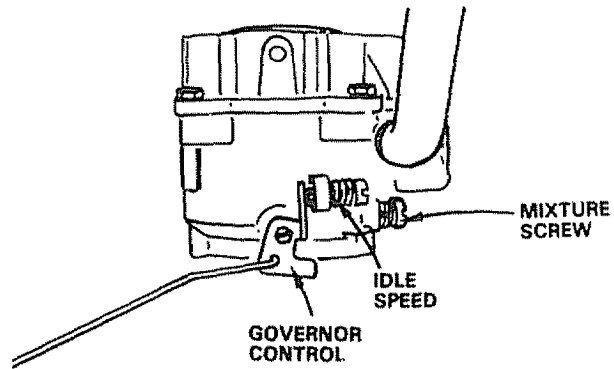

FIGURE 31
- Gently turn idle mixture valve clockwise (↻) Fig. 31 until it just closes and then counterclockwise (↻) 1 1/2 turns
- d. Hold governor control lever against idle speed screw and adjust idle speed screw to obtain 1200 to 1400 RPM Fig. 31